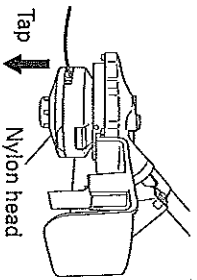

Fig. 14
- (1) Rotate and tap the nylon head on the ground. Nylon line is drawn out abt. 1-3/16" (30 mm) by one tapping. (Fig. 14)